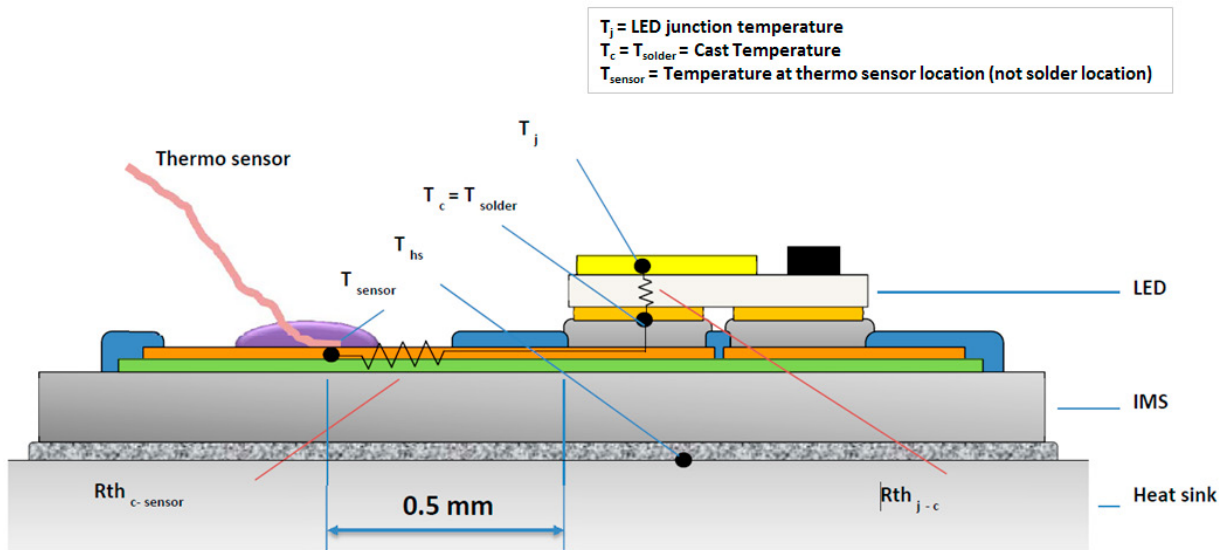

Figure 1. LUXEON F case temperature location on sample board.
LUXEON F is tested and binned at 85°C DC Case Temperature, T_c . T_c is defined in Figure 1 (refer to LUXEON F Application Brief AB108 for additional details). Additional information regarding hot binning is available from your Lumileds Sales representative.
3. Case Temperature is defined in Figure 1; DC is defined as Direct Current.
- Case temperature is defined in Figure 1; DC is defined as direct current.